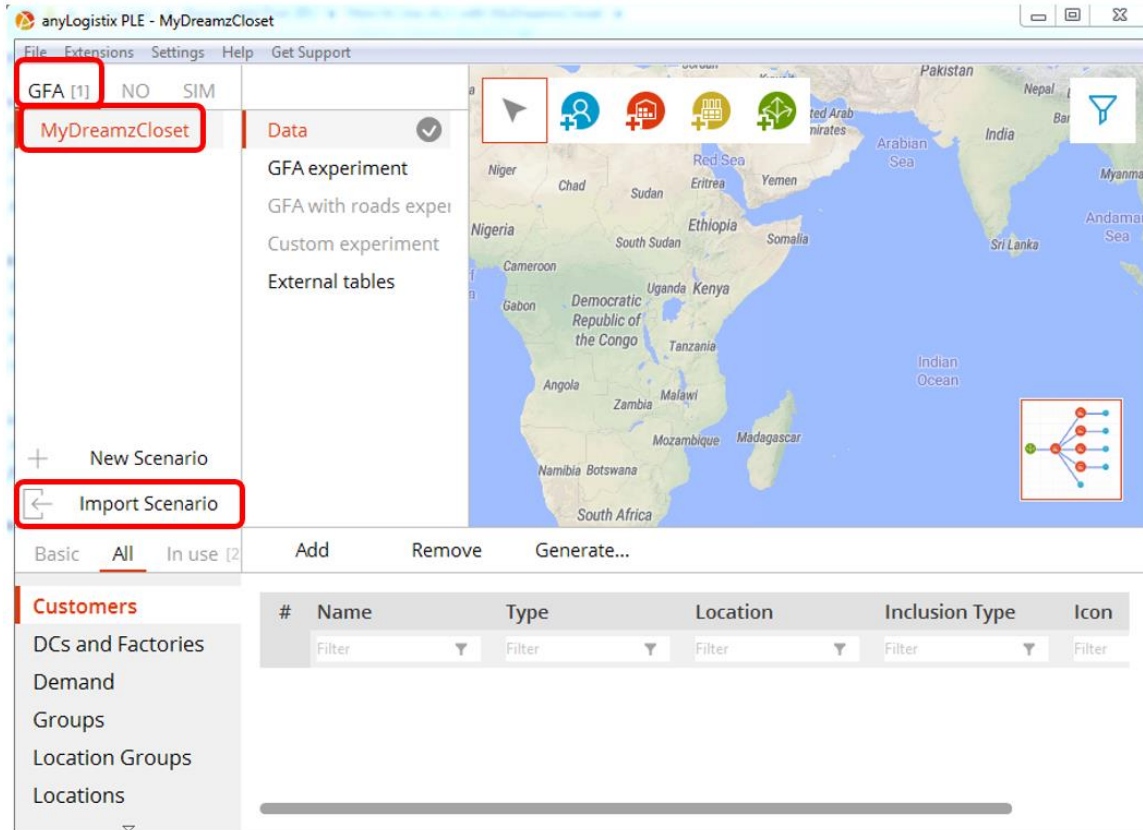

Figure 14: ALX GFA Import Scenario
- ✓ Go to ALX, Figure 14, ensure that its at the “GFA – MyDreamzCloset” Scenario